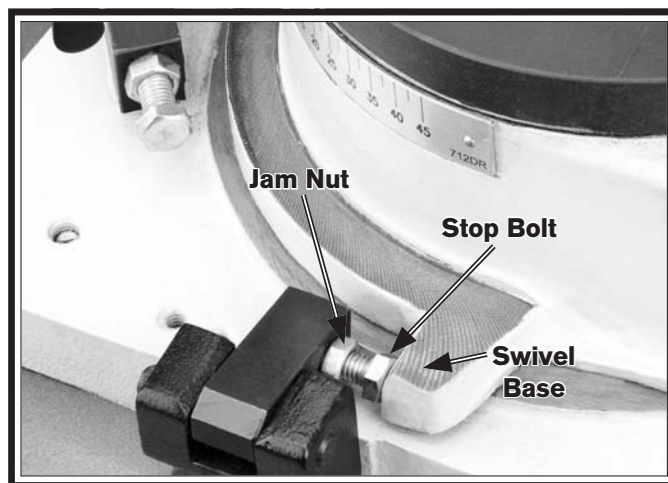

Figure 44. Stop adjustment.
4. If the square does not fit snugly against both the stationary jaw and the blade, loosen the jam nut shown in Figure 44 several turns, then thread the stop bolt inward several turns.
6. Adjust the stop bolt as needed until it just touches the cast iron swivel base, as shown in Figure 44, then snug the jam nut against the stop block without turning the stop bolt.